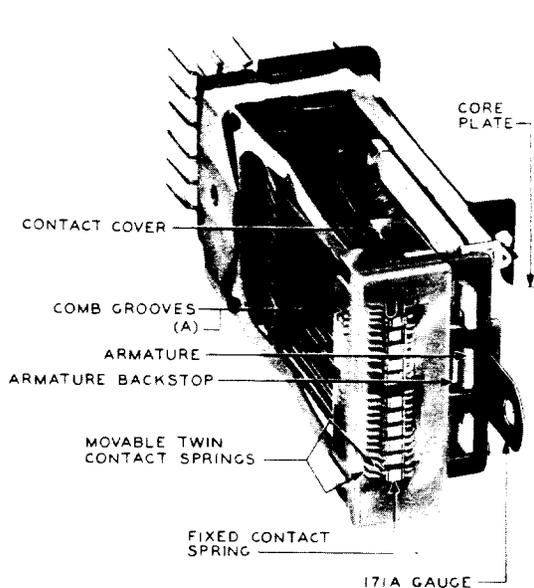

Fig. 5—Method of Inserting Gauge In AL-Type Relay
Fig. 5(A) and 6(A)—The twin springs of a movable pair shall be in the respective comb grooves associated with the position on the relay in which the springs are mounted.
(c) To check the requirements where the gauge is to be inserted in the armature gap, electrically operate and release the relay (see requirement 2.13). Insert into the armature gap the specified gauge of the proper thickness with the stop on the gauge resting against the core plate as shown in Fig. 5 and 6. Hold the gauge so that its long axis is in a horizontal position and the gauge does not touch the card. Then electrically energize the relay and note whether the contacts are open or closed as required. When a gauge is inserted in the armature gap of the relay, the relay may release when the current is removed from the winding; therefore, at least minimum operate current must remain applied to the winding to keep the relay electrically energized while checking the requirement on the relay. In case of doubt as to whether the contacts are open or closed, remove the contact cover and apply the KS-6320 orange stick to the tips of the twin contact springs. Attempt to move them toward their mating single contact as shown in Fig. 7 and 8. Observable movement of either twin contact indicates that the contact is not closed.